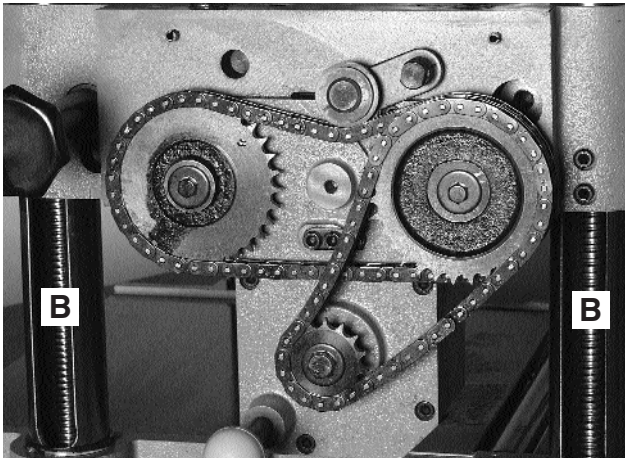

Fig. 21
Note four raising screws Fig. 21 (B) in the outside columns of the machine should be lubricated using a grease.